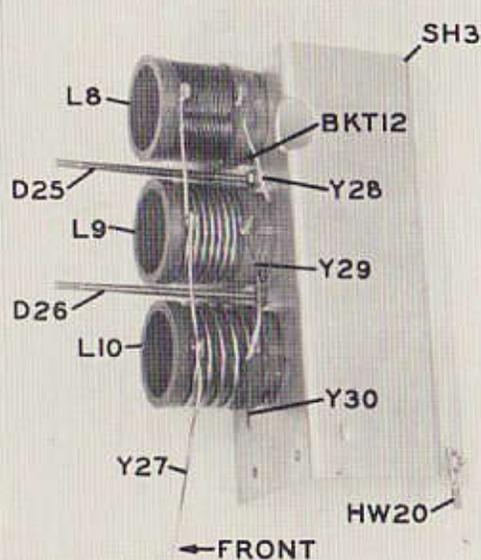

FIG. 2C FINAL SHIELD AND TANK
- (2) Connect a jumper of #18 tinned wire between lead Y28 (at contact 9) and contact 1 of SW2D (refer to Figures 2C, 2F and 5A). Space the jumper 1/16" from other leads or contacts. Solder both ends of the jumper.